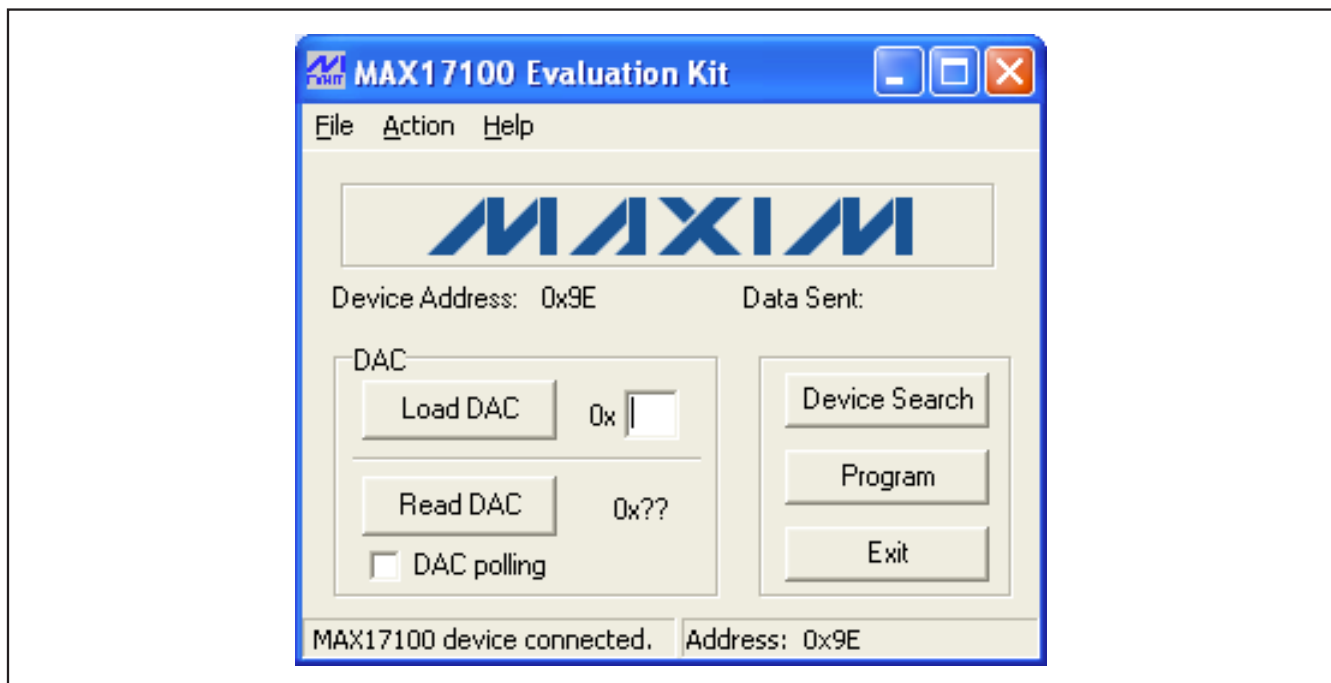
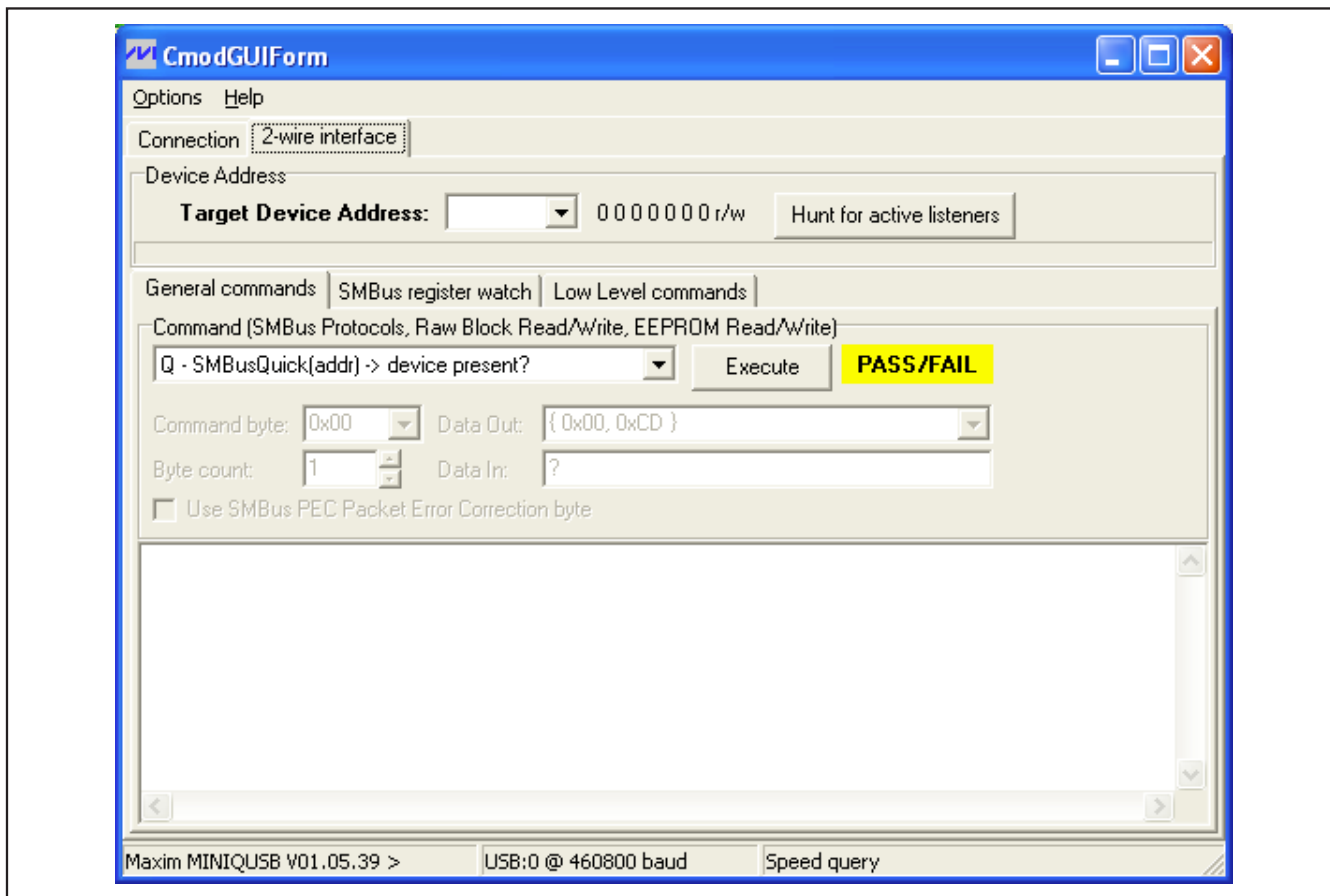

Figure 1. MAX17100 EV Kit Software Main Window
Figure 2. Command Module Interface Window
- 11) Normal device operation is verified when **MAX17100 Device Connected** is displayed in the status bar on the MAX17100 EV kit main window (Figure 1).
The DAC setting corresponds to a certain sink-current level, which in turn corresponds to a specific VCOM voltage. With the MAX17100 EV kit software, the device's 7-bit internal DAC is configured by entering an appropriate DAC setting into the **Load DAC** edit box. The DAC setting can be set from 0x00 (VCOM_{MAX}) to 0x7F (VCOM_{MIN}). The DAC setting is written to the device by pressing the **Load DAC** button (Figure 1).
There are two methods for communicating with the MAX17100, through the MAX17100 EV kit software main window (Figure 1), or through the interface window available by selecting the **Action | Interface Diagnostic Window** menu item from the menu bar. The Maxim command module interface window (Figure 2) includes a **2-wire interface** tab that allows for execu-
The **Command byte** combo box accepts numeric data in binary, decimal, or hexadecimal. Hexadecimal numbers should be prefixed by \$ or 0x. Binary numbers must be exactly eight digits. See Figure 2 for an illustration of this tool.